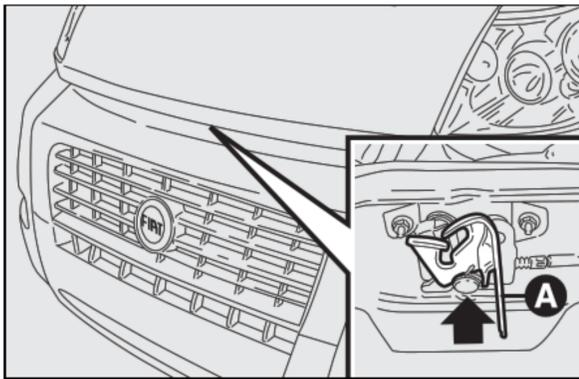

fig. 101
- pull lever **A-fig. 101** as shown in the figure;